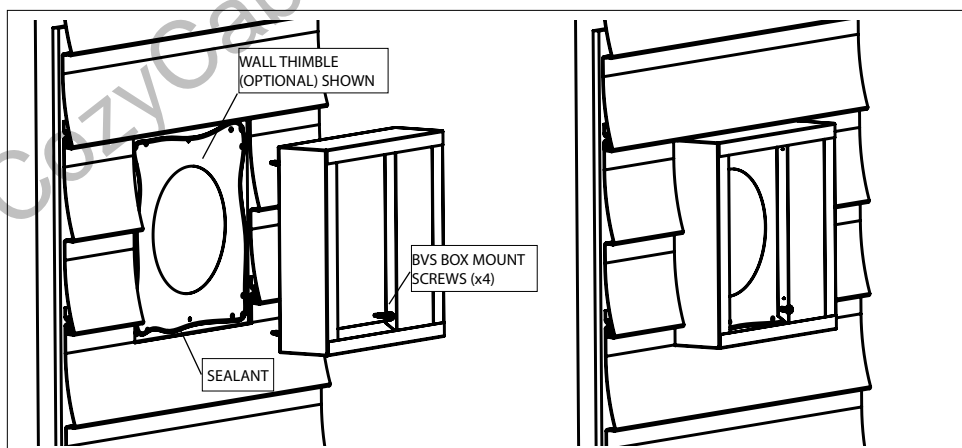

Figure 3- VSS Box
5. If installing a vinyl siding standoff box (BVS), reference **Fig.3**. The same BVS box works with both the 4x6 and 5x8 termination mounting plate. Depending on your installation requirements, install the standoff box to either the framed opening of the exterior wall (when no thimble is installed-use wood screws) or directly to the outside wall thimble plate (use included hardware).